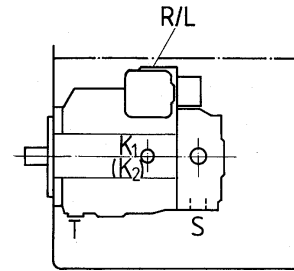

Fig. 3
a) If the minimum fluid level does not fall below the upper point on the pump: The drain port and the suction port »S« remain open (see fig.3)